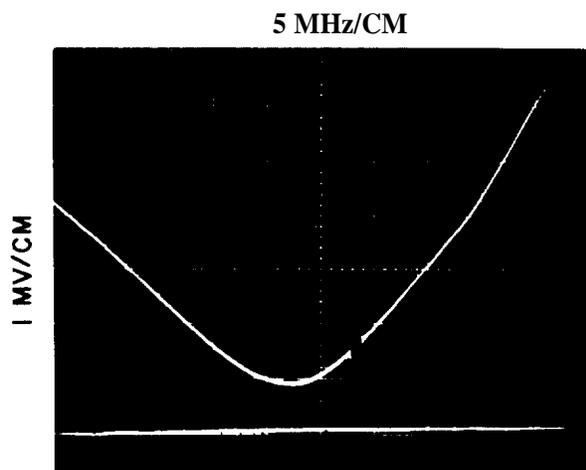

Figure 4-12. Typical Response,
- (14) Adjust the tap point of L12, L13, L16 and L15. In each case, the tap point should be approximately 1/4 turn above L14, and together they should be maintained the same relative distance from L14.
- (15) Rotate the tuner shaft fully clockwise.
- (16) Set the sweep generator center frequency to 500 MHz and the sweep width to about 18 MHz. Readjust the controls as necessary for a convenient display of the marker and the response.
- (17) Adjust trimmer capacitors C37, C50, C51 and C52 for a symmetrical response centered on the marker. Refer to Figure 4-12 for a typical response.
- (18) Tune down the frequency about 25 MHz, tracking the tuner with the sweep generator. Observe the symmetry and shifting of the response about the marker. Use a "finger" to introduce capacitance to C1A and C1B noting in each case if the response is improved or not.
- (19) Adjust the rotors of C1A and C1B for the required change in capacitance determined in step (18).